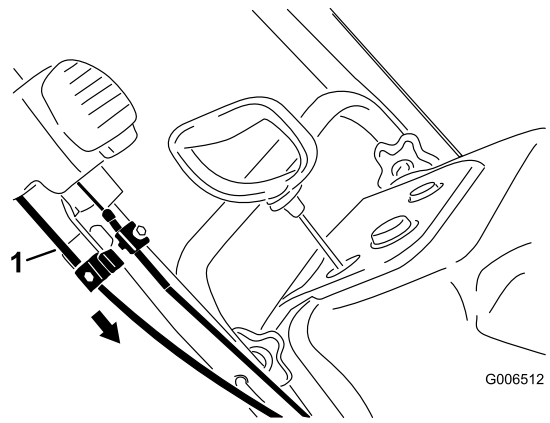

Figure 33
4. Hold the discharge chute in the straight-ahead position, pull the lower cable casing downward until you remove all the slack from the cable, and tighten the screw on the lower cable clamp securely (Figure 33).